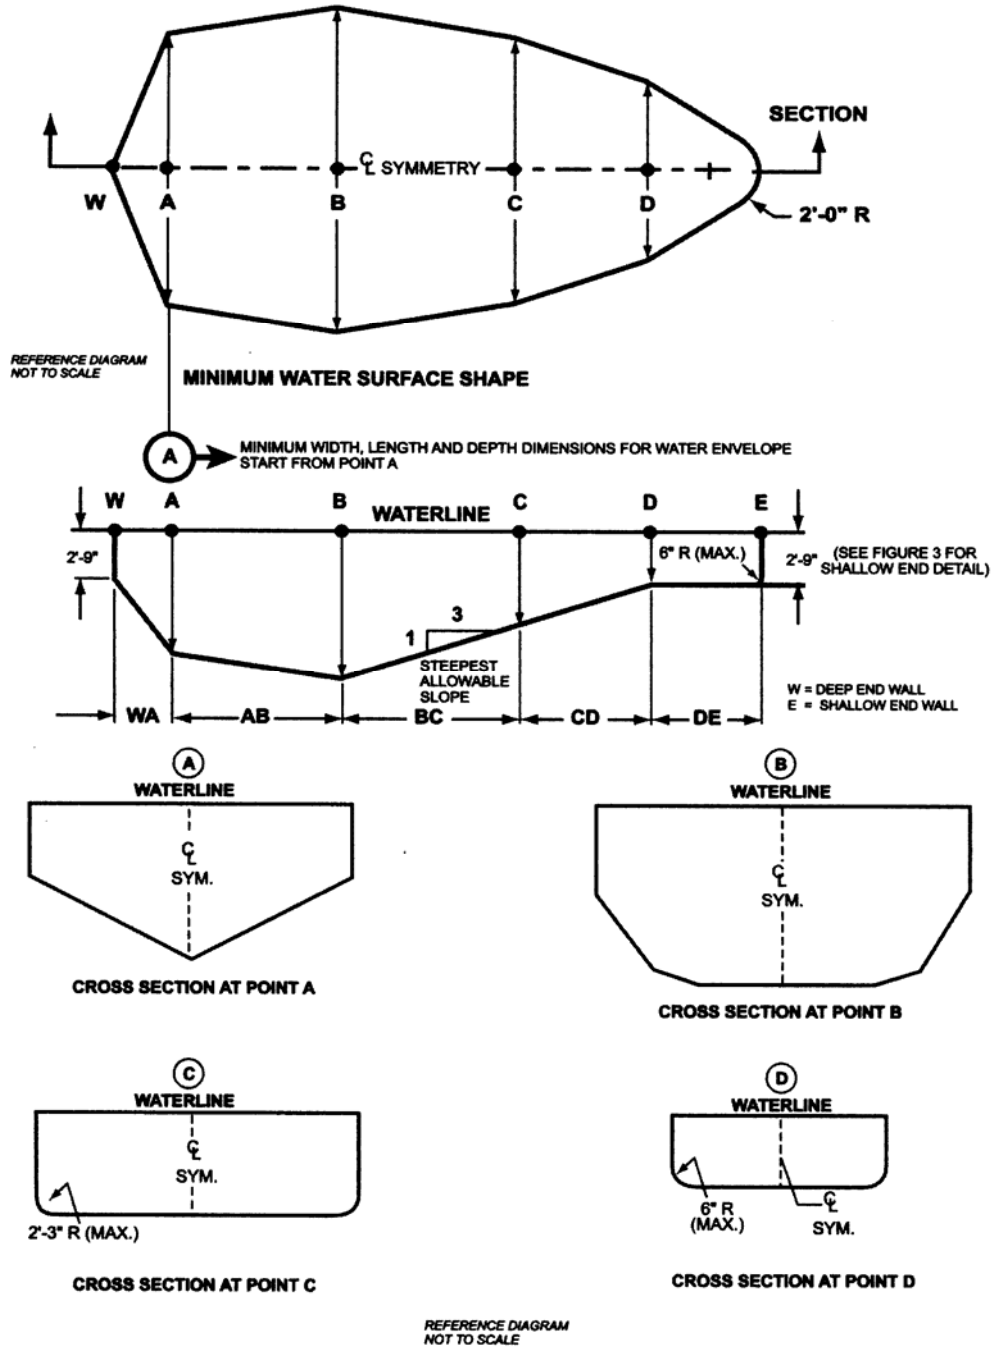

Figure 3- Minimum water envelope
5.3.3 The walls of Type I pool, when defining the minimum diving water envelope, shall be plumb or outside of Type 1 water geometry. (See figure 3, table 1.)
- Figure 3 drawings are not to scale.(For pool types, see Glossary.)
5.8.2.1 Diving equipment installation and use instructions shall be provided by the diving equipment manufacturer and shall specify the minimum water dimensions required for each diving board and diving stand combination. They may refer to the water envelopes type of their choice by dimensionally relating their products to Point A on the water envelopes as shown in figure 3 and table 1, 5.9.1 through 5.9.3.
5.9 Figure 3 contains suggested drawings and diagrams for minimum water envelope for swimming
pools designated type I - V. Individual pool types are shown in figure 3 and table 1.
5.9.1.2 Point A as shown in figure 3 and table 1 shall be the reference point of origin for all dimensions defining the minimum water envelope.